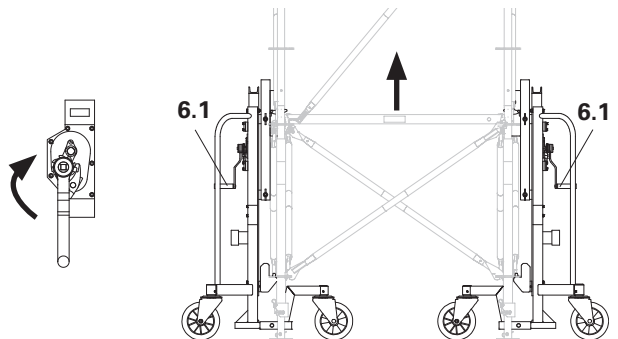

Fig. A3.04
3. Raise the load by turning the hand crank (6.1) in a clockwise direction. The safety pawls (4.3) are automatically pushed upwards at the rear, fall in a forward direction and thus secure the Ledger against lifting. (Fig. A3.04)